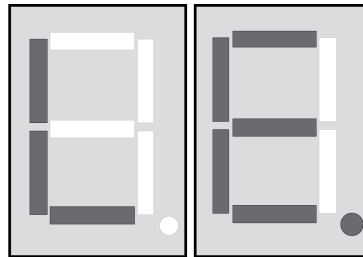

Figure 6: Indication **LE** – „Learn“
- Trigger a teach telegram on the desired radio transmitter (see instructions for radio transmitter). Operate manually-operated transmitters until **LE** appears in the display (Figure 6).